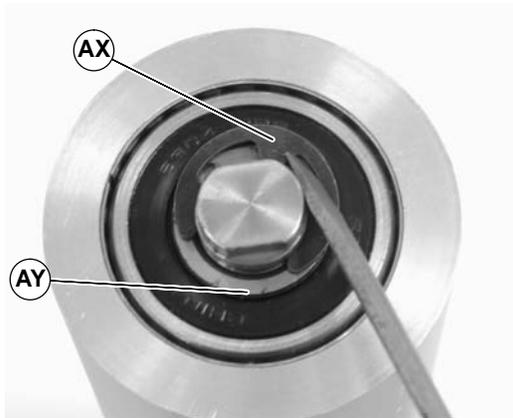

Figure 37
- Remove the pulley shaft assembly: remove the clip ring (AX of Figure 37) and washer (AY) from one side of the pulley assembly.